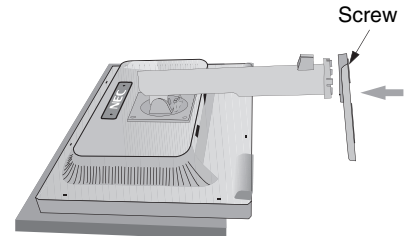

Figure 2
3. Attach the base to the stand and properly lock screw of base's bottom (**Figure 2**).